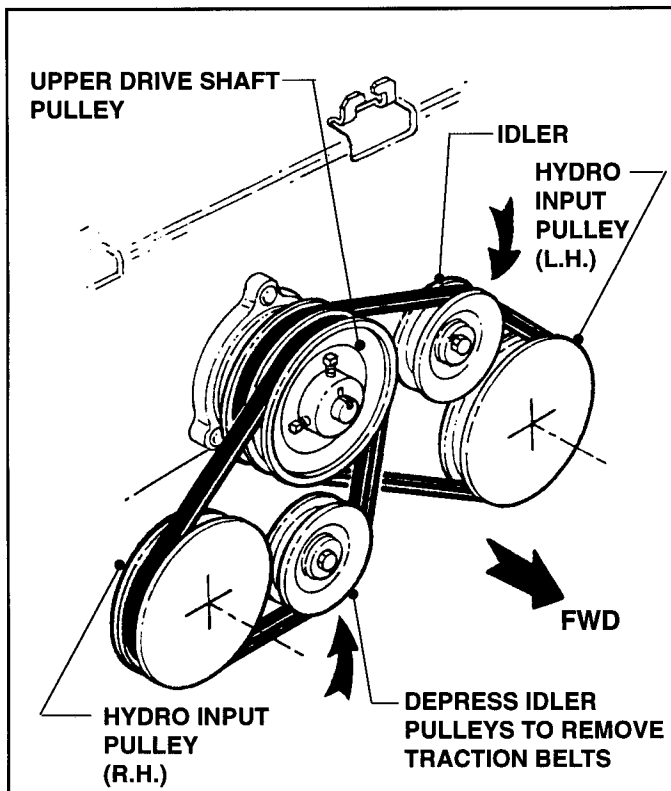

FIGURE 6.7
- D. Depress Idler Pulley and remove Traction Belt from Input Pulley. See Figure 6.7.